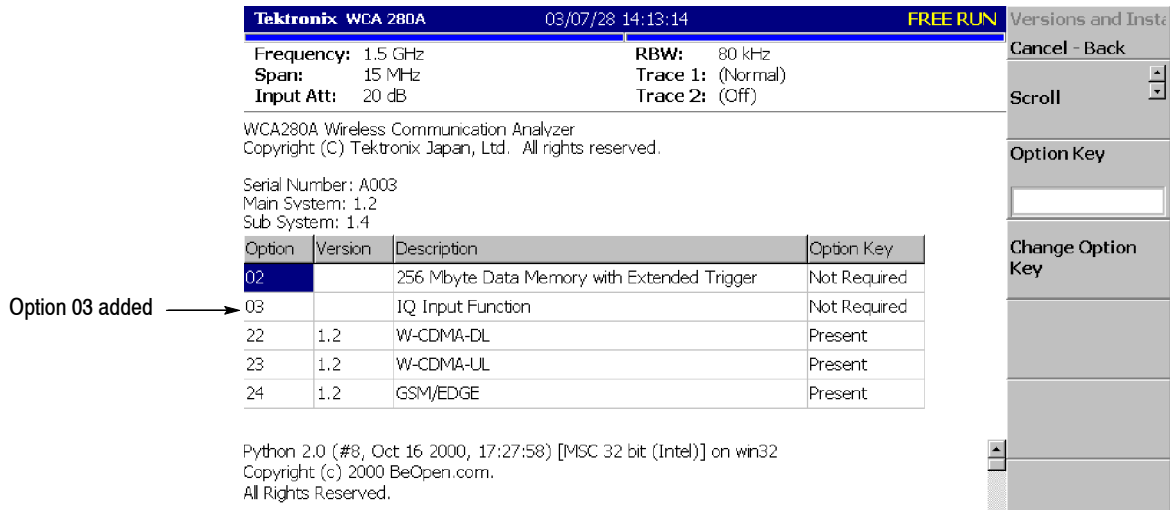

Figure 12: Checking the installed option
4. Check that Option 03 is added in the installed options list on screen (see Figure 12 below).